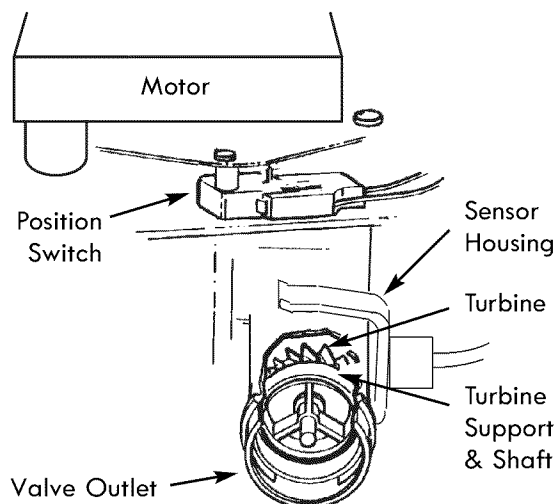

Figure 43
**TURBINE OPERATION:** If no water is flowing through the softener, the turbine indicator displays three zeros. When water is flowing, a 000 to 140 count repeats for each gallon of water passing through the turbine. To check for positive operation of the turbine if zeros are shown, open a nearby soft water faucet and observe the turbine count. If you don't get a reading in the display with faucet open, pull the sensor housing from the valve outlet port (see Fig. 43). Pass a small magnet back and forth in front of the sensor. You should get a reading in the display. If you get a reading, unhook the inlet and outlet plumbing and check the turbine for binding.